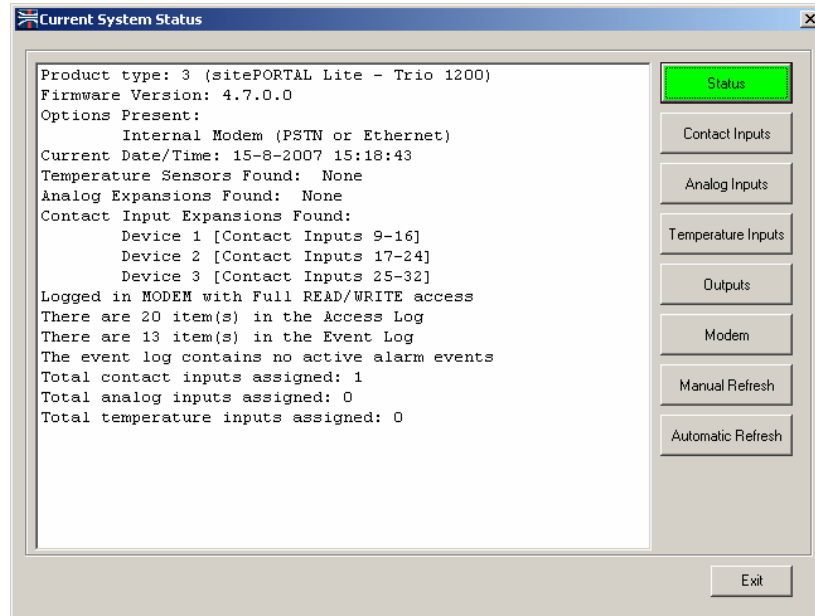

Figure 4 – Configuration and Alarms Summary
6. Select 'Online Functions->View->Current System Status' to obtain a summary of sPL configuration and alarms (see figure 4). You can select any of the options on the right hand side of the current status window to obtain an in depth summary of each selection.